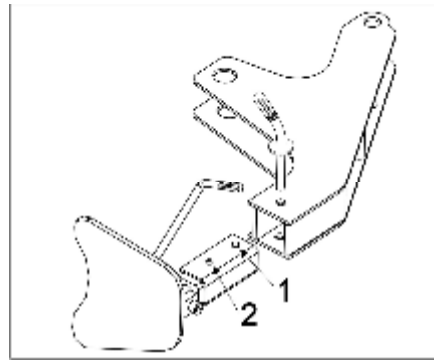

Fig.19
- I The bead breaker arm is adjustable with two ranges. According to the size of tyre, choose range 1 or range 2. (Fig.19)